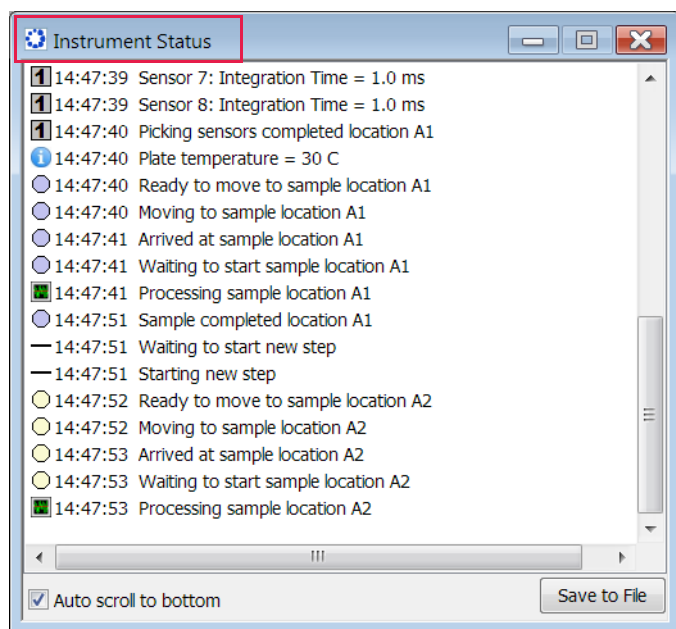

Figure 7-69: Instrument Status Log
- Optional: Click **View > Instrument Status** to view the log file (see Figure 7-69).